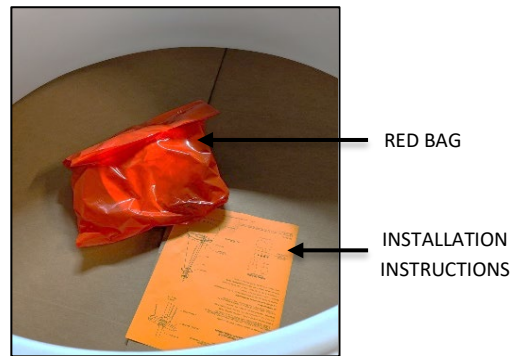

FIG. 3- RED BAG AND INSTALLATION
2. INSTALLATION INSTRUCTIONS (shown in FIG. 3) - Please completely read the install instructions before starting installation.
3. RED BAG (shown in FIG. 3) contains below following items